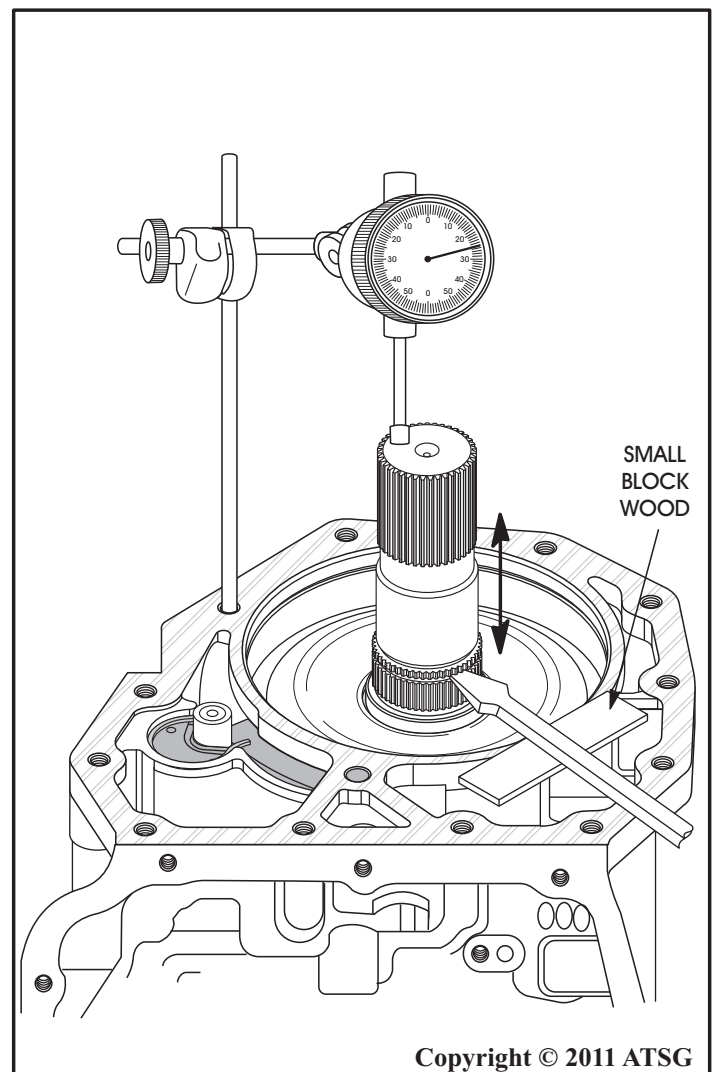

Figure 38
11. Using a dial indicator, measure and record the output shaft end-play reading, as shown in Figure 38, to use as a reference for re-assembly.
Note: Use screwdriver and small wood block to move gear train up and down, as shown in Figure 38.